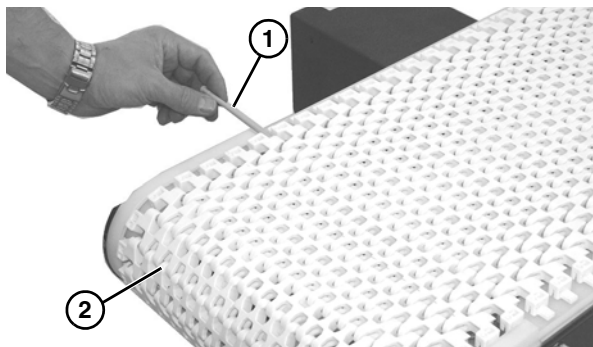

Figure 18
1. Use a punch and hammer to push the belt rod (Figure 18, item 1) out by striking the rod end opposite the retaining head.
2. Slide the old belt (Figure 18, item 2) off the conveyor frame.